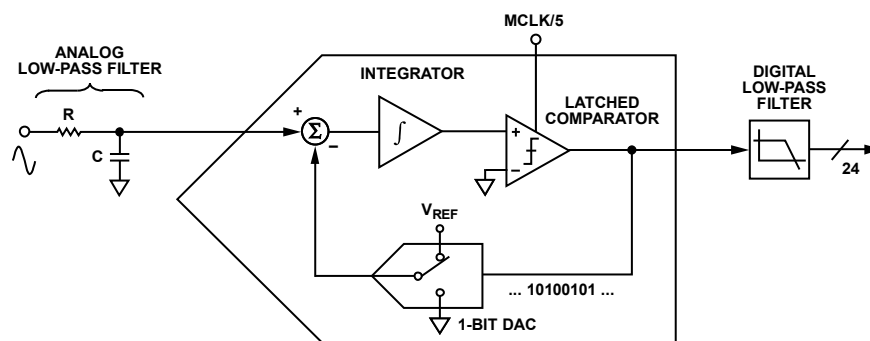
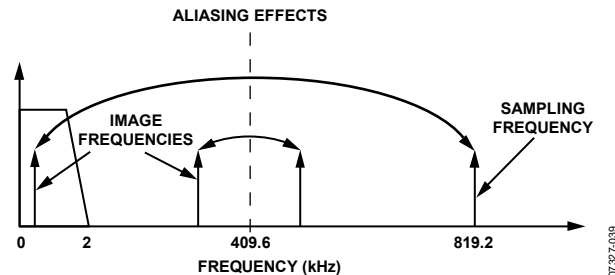

Figure 38. First-Order  $\Sigma$ - $\Delta$  ADC
Figure 39. ADC and Signal Processing in Current Channel Outline Dimensions
For simplicity, the block diagram in Figure 38 shows a first-order  $\Sigma$ - $\Delta$  ADC. The converter is made up of the  $\Sigma$ - $\Delta$  modulator and the digital low-pass filter.
Figure 38 also shows an analog low-pass filter (RC) on the input to the modulator. This filter is present to prevent aliasing, an artifact of all sampled systems. Aliasing means that frequency components in the input signal to the ADC, which are higher than half the sampling rate of the ADC, appear in the sampled signal at a frequency below half the sampling rate. Figure 39 illustrates the effect. Frequency components (the black arrows) above half the sampling frequency (also known as the Nyquist frequency, that is, 409.6 kHz) are imaged or folded back down below 409.6 kHz. This happens with all ADCs regardless of the architecture. In the example shown in Figure 39, only frequencies near the sampling frequency (819.2 kHz) move into the band of interest for metering (40 Hz to 2 kHz). This allows the use of a very simple low-pass filter (LPF) to attenuate high frequency (near 819.2 kHz) noise and prevents distortion in the band of interest.
For conventional current sensors, a simple RC filter (single-pole LPF) with a corner frequency of 10 kHz produces an attenuation of approximately 40 dB at 819.2 kHz (see Figure 39). The 20 dB per decade attenuation is usually sufficient to eliminate the effects of aliasing for conventional current sensors. However, for a di/dt sensor such as a Rogowski coil, the sensor has a 20 dB per decade gain. This neutralizes the –20 dB per decade attenuation produced by one simple LPF. Therefore, when using a di/dt sensor, care should be taken to offset the 20 dB per decade gain. One simple approach is to cascade two RC filters to produce the –40 dB per decade attenuation needed.